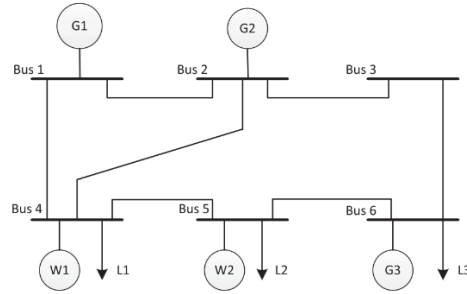

Figure 1. The IEEE 6-bus test system with three conventional units G1-G3, two wind farms W1-W2, and three loads L1-L3.
Step 1) Understanding the problem: Please describe the unit commitment problem, model it as an optimization problem, and identify the variables, objective function and constraints involved. You can use the 6-bus test system from Figure 1 or any other test system that you prefer (you are not restricted to this use case) for your simulations. The 6-bus test system, shown in Figure 1, includes 3 conventional units (G1-G3), 2 wind farms (W1-W2), and 3 loads (L1-L3). The technical data related to generating units and transmission lines, capacity of wind farms, and the nominal value of loads have been attached.